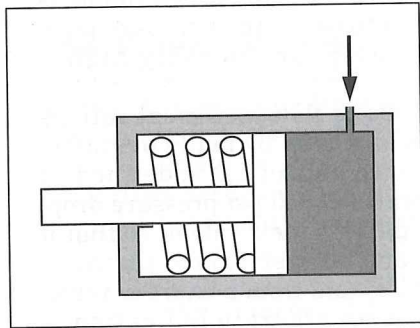

Fig. 9-18 — Spring force retracts the rod in a spring-return cylinder.
**Spring-return cylinders.** Similar to the low-cost single-acting types, spring-return cylinders, Fig. 9-18, have a spring that repositions the piston to its starting point. This type is widely used in both pneumatic and hydraulic service, but sometimes is not suitable for pneumatics. If the spring is heavy enough for speedy piston return, it may require too much force to